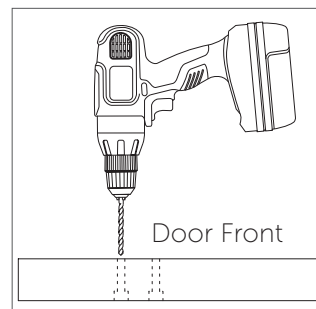

Figure 7
8. Turn the door over, returning it to the face-up position. Drill all the way through the pilot holes using a drill with a 3/8" drill bit (Figure 7).
2. Position the Door Guide part way into the groove in the bottom of the door (Figure 7).